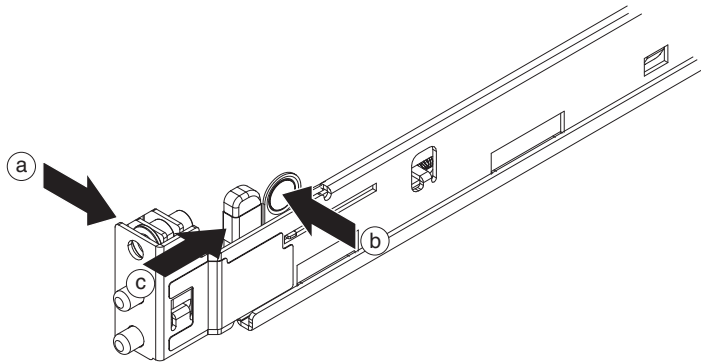

Figure 6. The front left rail attaching to the rack
4. Insert the left front of the rail, as shown in Figure 6 on page 17. To insert the left front rail, use the following steps: